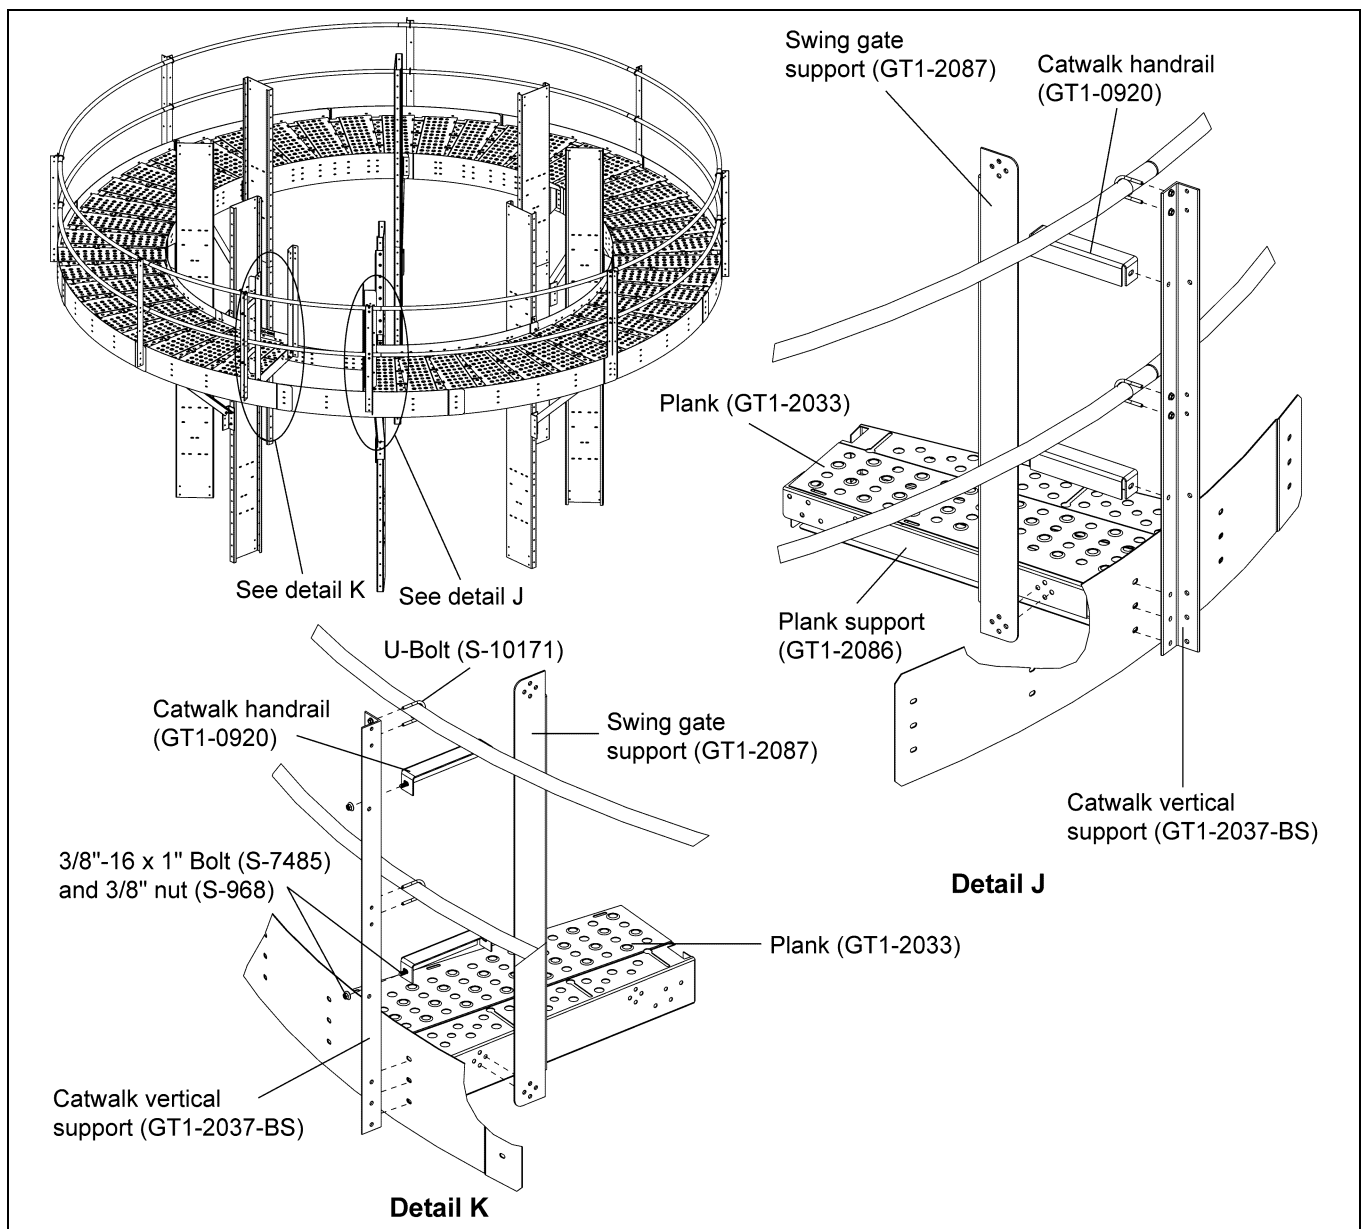

Figure 4W
1. Install the swing gate support (GT1-2087) with the plank support (GT1-2086) using 3/8"-16 x 1" JS grade 8 or grade 8.2 bolts (S-7485) and 3/8"-16 ZN grade 5 nuts (S-968). (See detail J in Figure 4W.)
2. Install two (2) catwalk handrails (GT1-0920) between the swing gate support (GT1-2087) and the catwalk vertical support (GT1-2037-BS) using 3/8"-16 x 1" JS grade 8 or grade 8.2 bolts (S-7485) and 3/8"-16 ZN grade 5 nuts (S-968). (See detail J in Figure 4W.)
3. On the other side, install the swing gate support (GT1-2087) to the plank (GT1-2033) using 3/8"-16 x 1" JS grade 8 or grade 8.2 bolts (S-7485) and 3/8"-16 ZN grade 5 nuts (S-968). (See detail K in Figure 4W.)
4. Install two (2) catwalk handrails (GT1-0920) between the swing gate support (GT1-2087) and the catwalk vertical support (GT1-2037-BS) using 3/8"-16 x 1" JS grade 8 or grade 8.2 bolts (S-7485) and 3/8"-16 ZN grade 5 nuts (S-968). (See detail K in Figure 4W.)